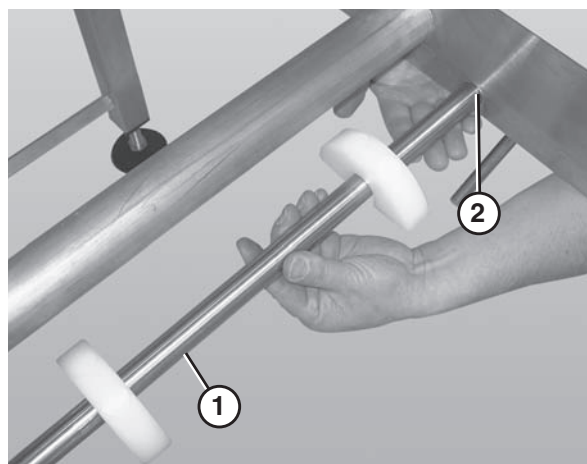

Figure 39
2. Slide the return shaft (Figure 39, item 1) up and through the large slot (Figure 39, item 2) in the frame (picture shown without the belt or wear strips).
3. Push up on the return shaft (Figure 39, item 1) and slide the notched end of the shaft through the small slot on the opposite side of the frame.